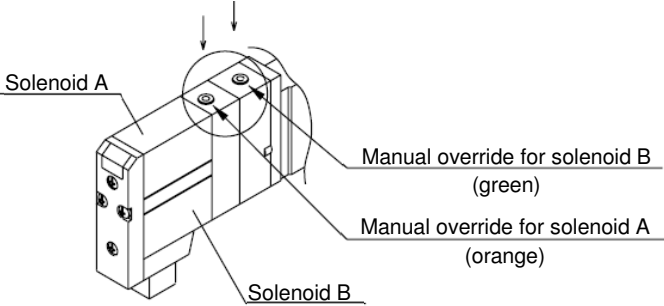

Figure 1
2.5.1 Non-locking push type (Refer to Figure 1)